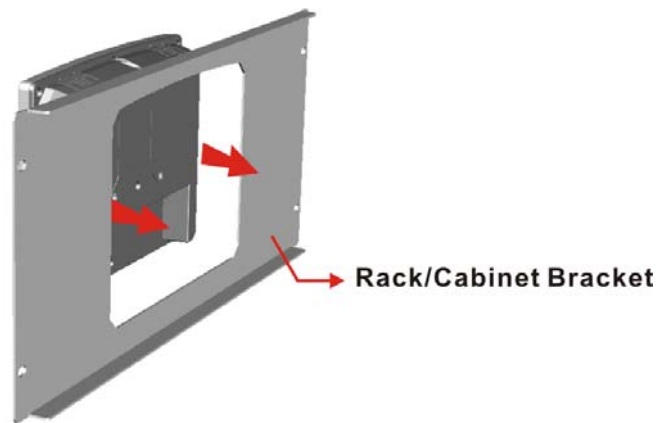

Figure 3-15: The Rack/Cabinet Bracket
- Step 1:** Slide the rear chassis of the AFL-xxx-9103 through the rack/cabinet bracket until the aluminum frame is flush against the front of the bracket (**Figure 3-15**).